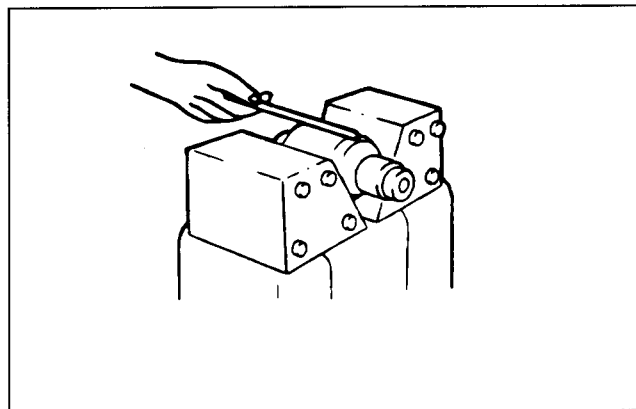

Figure 47
11. Put the armature on a growler tester to check for a shorted armature (Fig. 47). A burned commutator bar is an indication of a shorted armature. With the growler turned on, put a thin strip of steel or a hacksaw blade on the armature as it is slowly rotated. If the metal strip vibrates over a winding, that winding is short circuited. Short circuited windings are sometimes caused by metal in the commutator bridging the gap from one commutator bar to the next. By removing the bridged metal, this condition can be corrected. If this does not correct the short replace the armature.